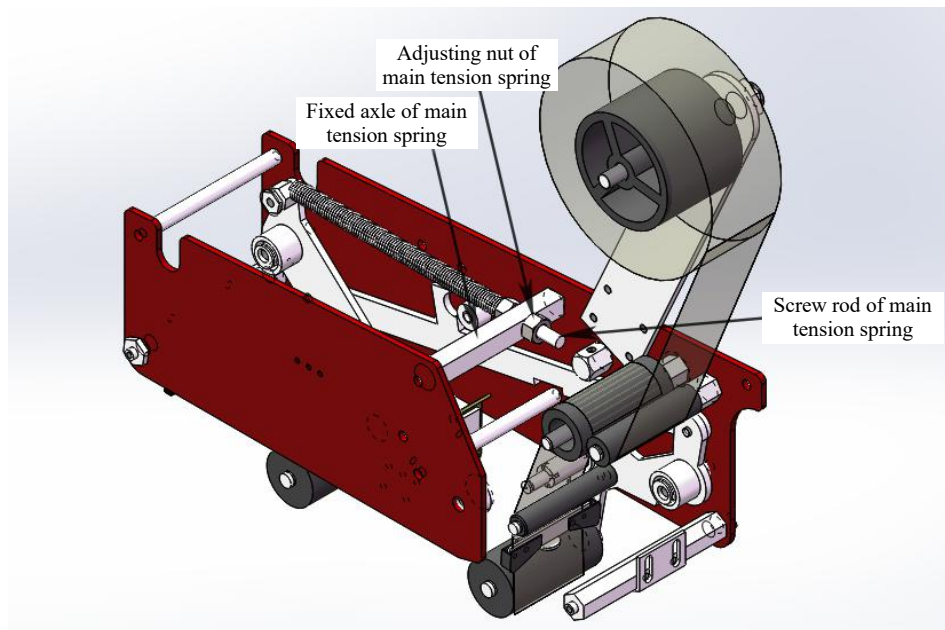

Figure 11
3.9 Tape tension adjustment, as shown in Figure 11:	- 12 -
3.9 Tape tension adjustment, as shown in Figure 11: